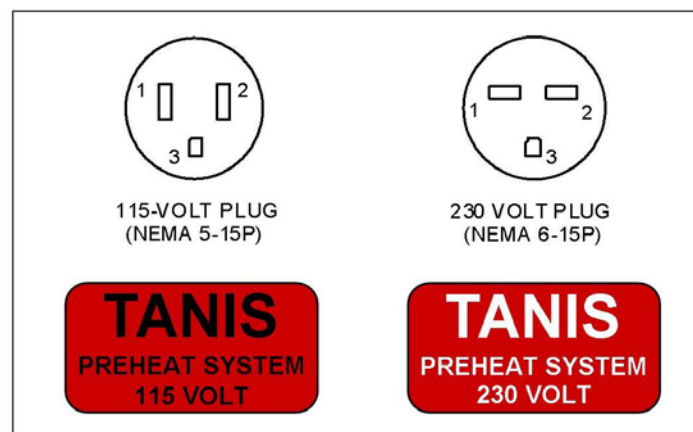

Figure 1 - Shore power plugs and placards. Placard that states at a minimum, *Tanis* and the system voltage requirement (115 Volt or 230 Volt) is acceptable.
6. Placard: Affix placard or placard with equivalent stating at a minimum; “Tanis”, and the system voltage near systems shore power plugs (Figures 1 and 3).
- 4) [☐] Verify grounds by checking for continuity between shore power plug ground pin 3 (Figure 1), engine, and airframe.